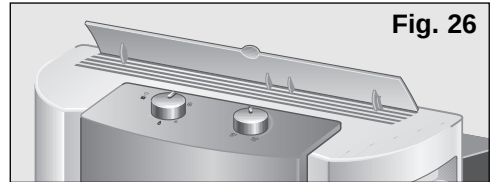

Fig. 26
- ❑ Lift the air director on the top of the appliance. This air director is not installed on the appliance on **PAM0530** models. See **figures 26 and 27** in "Heating".